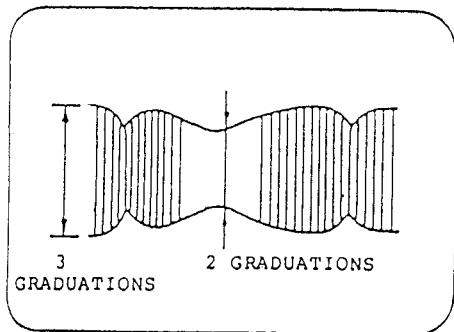

Fig. 3-16
#### 6. ADJUSTMENT AFTER REPLACING CYLINDER (VIDEO HEADS) (Fig. 3-16)
- 5) Adjust the voltage level control of the oscilloscope so that the maximum amplitude of the FM output is set to 4 graduations on the monitor of the oscilloscope. (See Fig. 3-16)
- 6) Turn the TRACKING control to set the maximum amplitude of FM output to 3 graduations on the monitor of the oscilloscope. (See Fig. 3-16)